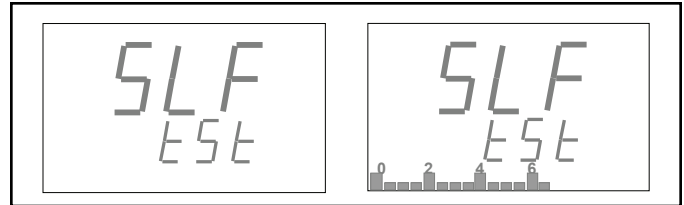

Figure 8. Auto-zero test screens
Test leads offer added impedance and may alter measurement results, especially at a lower scale. In order to take impedance of test leads into account, short the ends of the test leads together and press the Function button (F) until you see the screen shown in Figure 8. In a few seconds, this screen will disappear and you will hear a short beep. The Ground Pro Meter will return to normal measurement mode. Now when the test leads are shorted together, the display should show zero Ohms, even though the test leads may have some impedance. The correction factor will be saved in the internal memory.